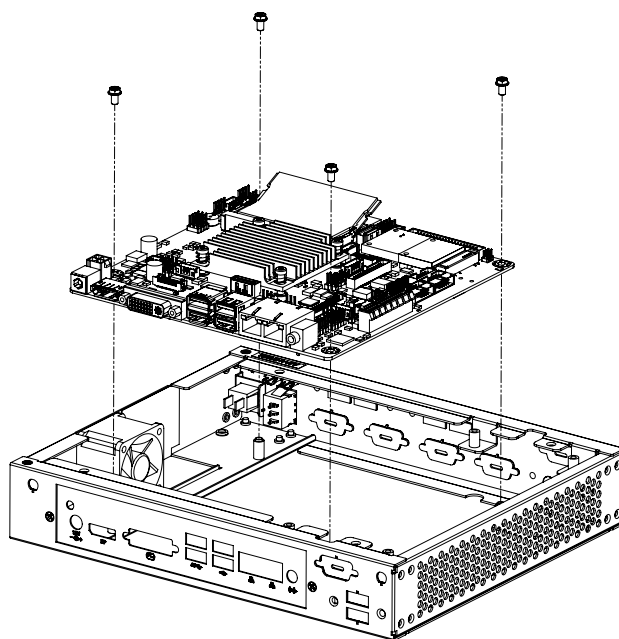

Figure 2.4 Assemble MB into Chassis / 組裝母板 / 組裝主機板
- Figure 2.4 Assemble MB into Chassis / 組裝母板 / 組裝主機板 . 7